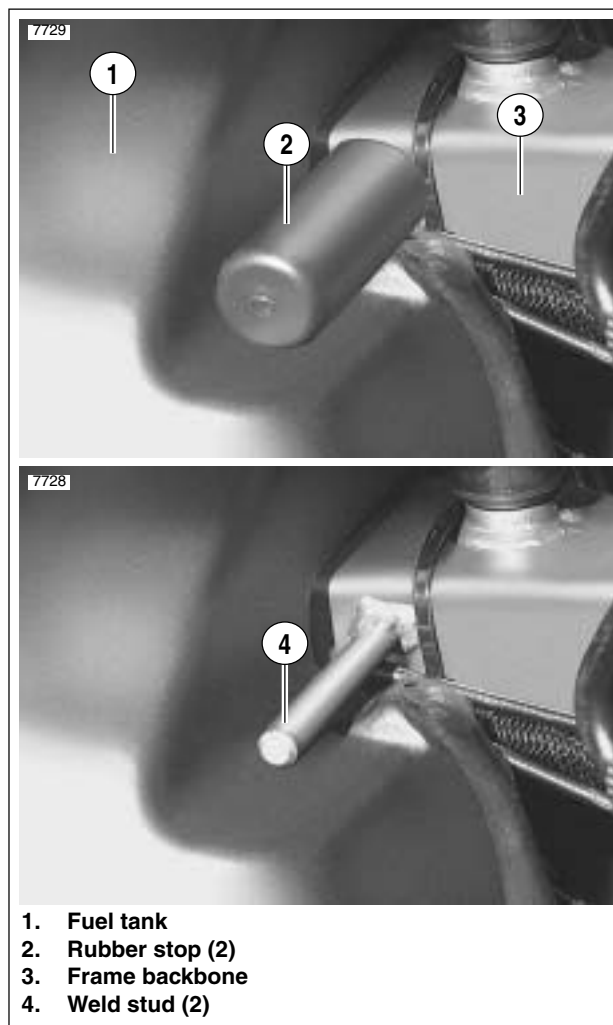

Figure 4-3. Remove Fuel Tank
5. See Figure 4-3. Moving to front of vehicle, pry rubber stops from weld studs on each side of frame backbone.
2. See Figure 4-3. Standing at front of vehicle, push rubber stops (2) onto weld studs (4) on each side of frame backbone. Using a rubber mallet, tap stops until fully seated.